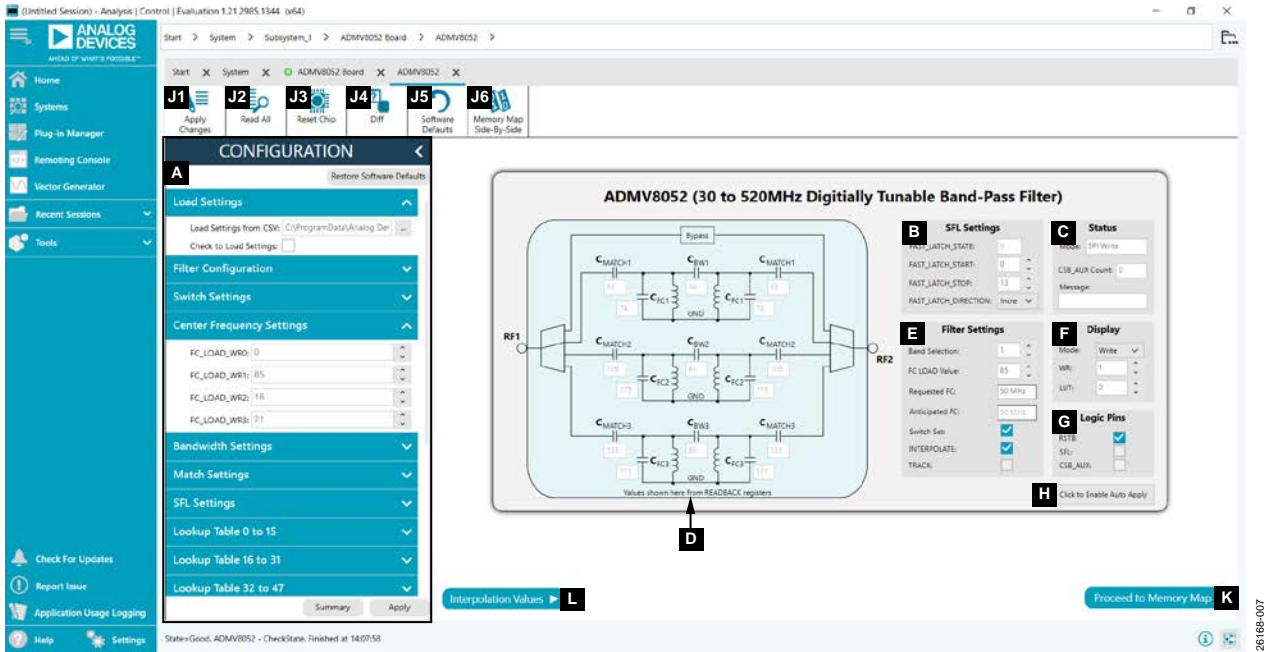

Figure 7. ADMV8052 Chip Plug-In with Labels
The full screen ADMV8052 chip plug-in with labels is shown in Figure 7. The labels correspond to items listed in Table 1, which describes the functionality of each section. For additional detailed programming, refer to the ADMV8052 data sheet.
Table 1. ADMV8052 Block Diagram Label Functions (See Figure 7)
A	Use the CONFIGURATION section to initialize the ADMV8052-EVALZ. Load Settings from CSV: click the ... button to select which .csv file to load into the CONFIGURATION section. Check to Load Settings: once a file is selected, select this check box to load the .csv file contents into the CONFIGURATION section. Note that a check mark does not appear when the check box is selected. Filter Configuration: select the configuration settings for interpolation, tracking, or debug. Switch Settings: select the switch position settings for SPI write mode. Center Frequency Settings: select the center frequency settings for SPI write mode. Bandwidth Settings: select the bandwidth settings for SPI write mode. Match Settings: select the match settings for SPI write mode. SFL Settings: select the SPI fast latch (SFL) settings that are used when the chip is placed into the SPI fast latch mode. Lookup Table 0 to 15: define the configuration for lookup table (LUT)0 to LUT15. Lookup Table 16 to 31: define the configuration for LUT16 to LUT31. Lookup Table 32 to 47: define the configuration for LUT32 to LUT47. Note that following functions are not shown in Figure 7. Scroll down in the CONFIGURATION section to view these functions. Lookup Table 48 to 63: define the configuration for LUT48 to LUT63. Lookup Table 64 to 79: define the configuration for LUT64 to LUT79. Lookup Table 80 to 95: define the configuration for LUT80 to LUT95. Lookup Table 96 to 111: define the configuration for LUT96 to LUT111. Lookup Table 112 to 127: define the configuration for LUT112 to LUT 127.
E	<p>The Filter Settings section shows several controls for configuring each filter band in the chip. Depending upon if INTERPOLATE is enabled, various controls can be visible.</p> <p>When INTERPOLATE is enabled (as shown in Figure 7), the following controls are visible:</p> <p>Band Selection: this numeric up and down box (0 to 3) is used to set the desired filter band. A value of 0 corresponds to the bypass configuration, and all other values correspond to the filter band number.</p> <p>FC_LOAD Value: this numeric up and down box (0 to 255) is used to set the desired center frequency value. Note that this is a unitless quantity, where a 0 corresponds to the lowest center frequency within a particular band, and 255 corresponds to the highest center frequency within a particular band.</p> <p>Requested FC: enter in a requested center frequency in this text box. The value entered is used to select the desired band of operation and compute the closest FC_LOAD Value for that frequency of operation.</p> <p>Anticipated FC: this text box is an estimation of the operating center frequency based upon the FC_LOAD Value.</p> <p>Switch Set: this check box determines if the input and output switches change.</p> <p>INTERPOLATE: this check box enables the interpolation functionality on the chip.</p> <p>TRACK: this check box enables filter tracking, whereby when the capacitor codes of one filter are changed, the other two non-selected filter capacitor codes are also set to the same values.</p> <p>When INTERPOLATE is disable (not shown in Figure 7), the following controls are visible:</p> <p>Band Selection: this numeric up and down box (0 to 3) is used to set the desired filter band. A value of 0 corresponds to the bypass configuration, and all other values correspond to the filter band number.</p> <p>FC_LOAD Value: this numeric up and down box (0 to 255) is used to set the desired center frequency capacitor code.</p> <p>BW_LOAD Value: this numeric up and down box (0 to 255) is used to set the desired bandwidth capacitor code.</p> <p>MATCH_LOAD Value: this numeric up and down box (0 to 255) is used to set the desired input and output match capacitor code.</p> <p>Switch Set: this check box determines if the input and output switches change.</p> <p>INTERPOLATE: this check box enables the interpolation functionality on the chip.</p> <p>TRACK: this check box enables filter tracking, whereby when the capacitor codes of one filter are changed, the other two non-selected filter capacitor codes are also set to the same values.</p> <p>READBACK Values --> Filter Settings: this button is available when interpolation is disabled. Click this button to populate the read back values from the hardware into the FC_LOAD, BW_LOAD, and MATCH_LOAD values.</p>
If a reset of the ADMV8052 chip is required on the ADMV8052-EVALZ, click **Reset Chip** (see Figure 7 and Label J3 in Table 1 for additional information). This automated sequence performs the following actions:
- The RST pin can also be pulled low from within the **ACE** software by unchecking the **RSTB** check box in the lower right corner of Figure 7 (see Label G). When using this option, be sure to click the check box again to return the RST pin high.